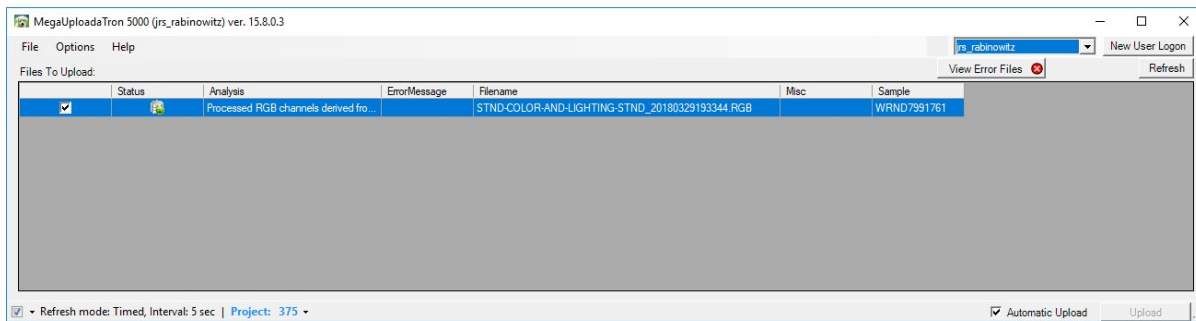

Figure 12. LIMS Uploader Window
2. The following window (Figure 12) will appear: